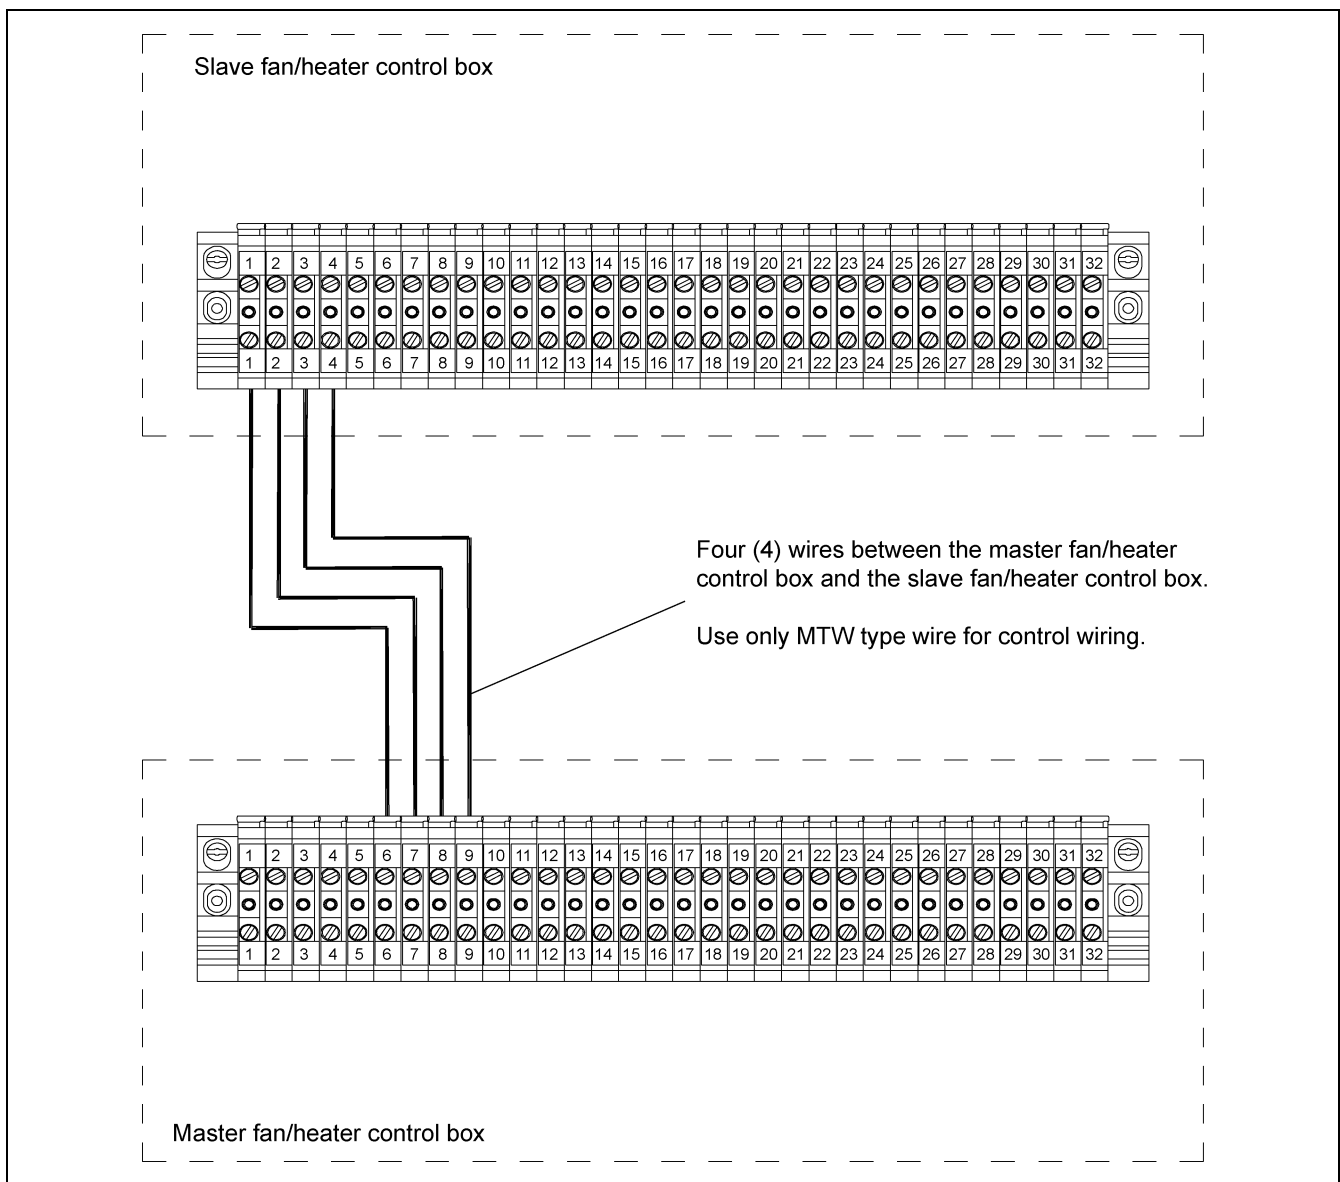

Figure 4G *Wiring for a Slave Fan/heater Unit to a Master Fan/Heater Unit*
1. Run four (4) 16 gauge MTW/THHN type wires from the master fan/heater unit to the slave fan/heater unit.
2. Connect the wires as shown in Figure 4G.